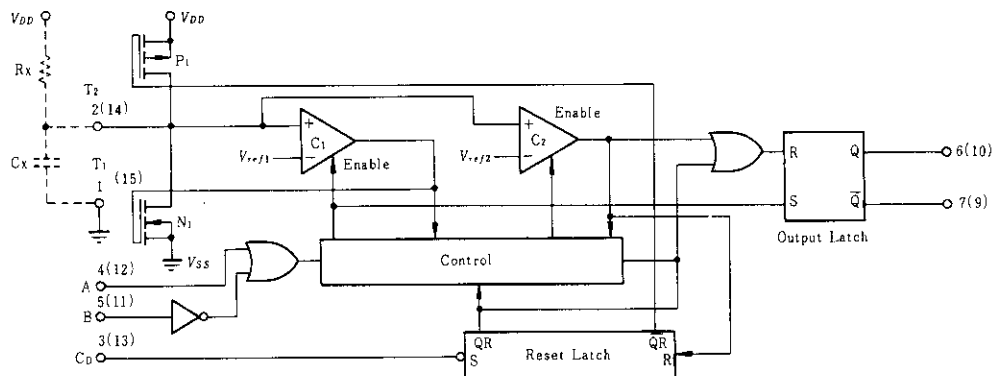

Fig.1 Logic Diagram
The block diagram of the HD14538B is shown in Figure 1, with circuit operation following. As shown in Figures 1 and 2 before an input trigger occurs, the monostable is in the quiescent state with the Q output low, and the timing capacitor Cx completely charged to V_{DD} . When the trigger input A goes from V_{SS} to V_{DD} (while inputs B and C_D are held to V_{DD}) a valid trigger is recognized, which turns on comparator C1 and N-Channel transistor N1 ①.